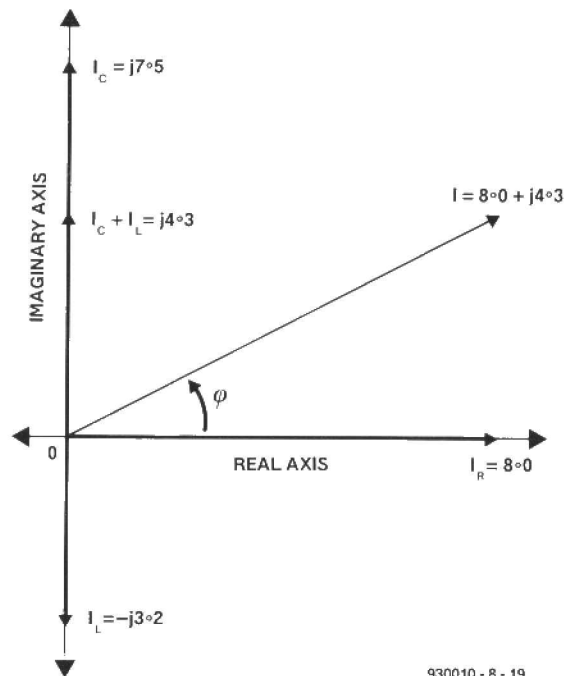

Fig. 75.
**Figure 75** is an Argand diagram of these results. The magnitude of the total current  $I$  is obtained by Pythagoras' Theorem: